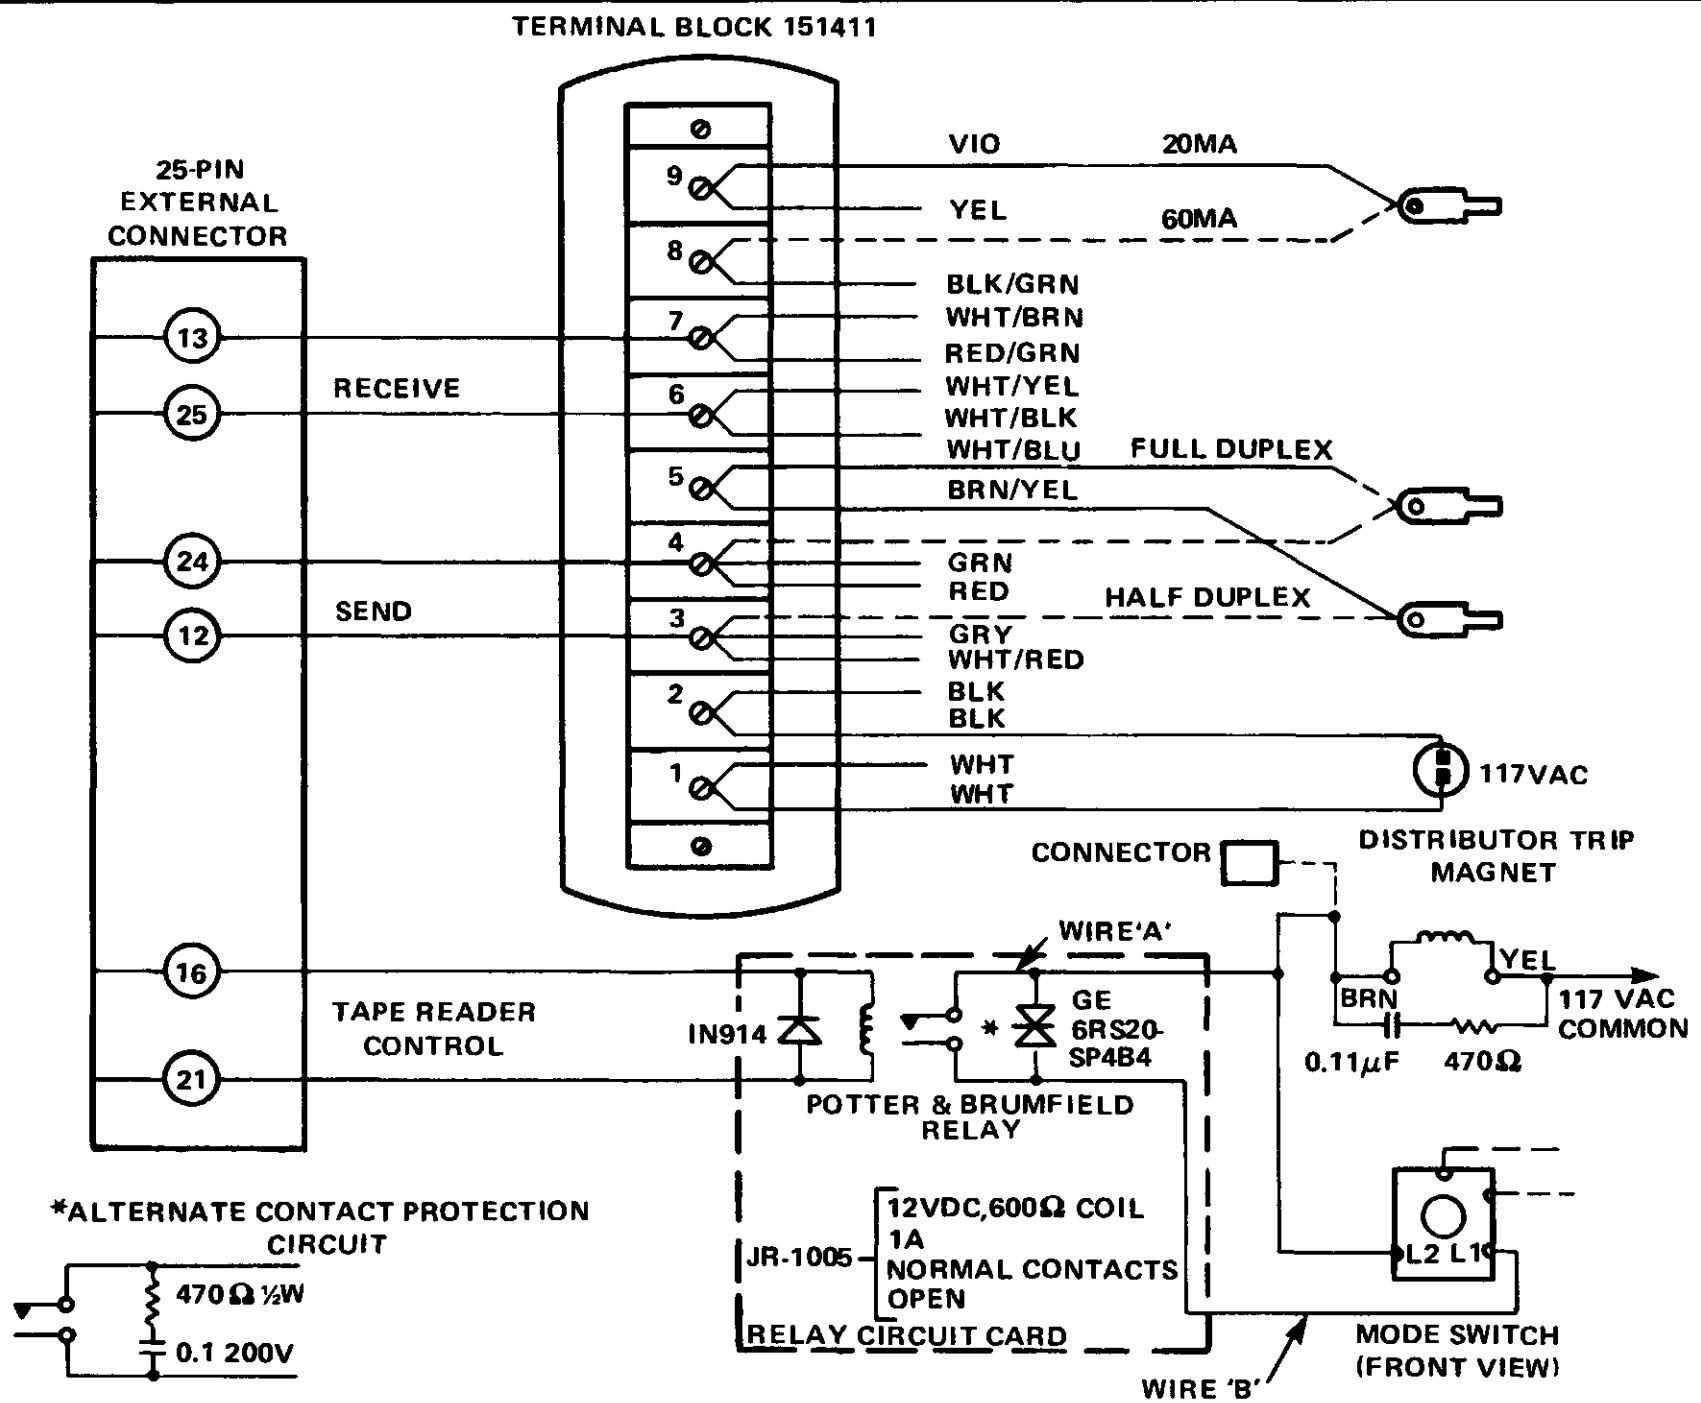
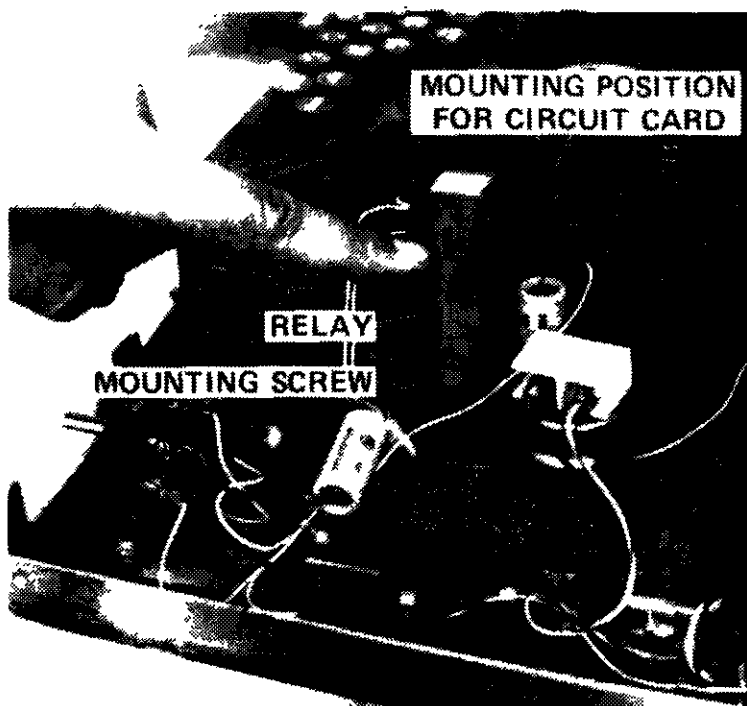
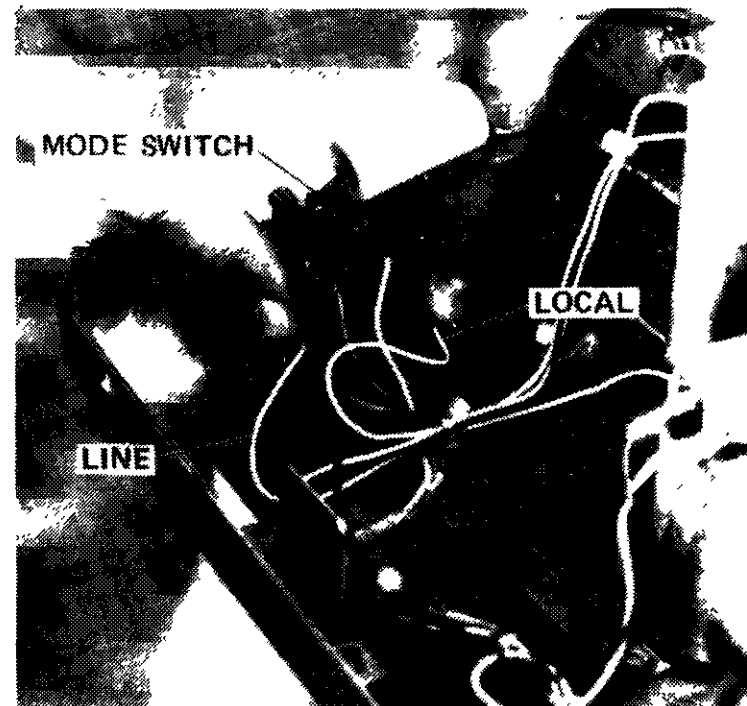

Figure C-4. Teletypewriter Modifications
Figure C-5. Relay Circuit
Figure C-6. Mode Switch
A circuit diagram of the relay circuit card is included in figure C-4; this diagram also includes the part numbers of the relay, diode, and thyrector. (Note that a 470-ohm resistor and a 0.1 μ F capacitor may be substituted for the thyrector.) After the relay circuit card has been assembled, mount it in position as shown in figure C-5. Secure the card to the base plate using two self-tapping screws. Connect the relay circuit to the distributor trip magnet and mode switch as follows:
1. Refer to figure C-4 and connect a wire (Wire A) from relay circuit card to terminal L2 on mode switch (see figure C-6).
3. Refer to figure C-4 and connect a wire (Wire B) from relay circuit board to terminal L1 on mode switch.
Connect a two-wire receive loop, a two-wire send loop, and a two-wire tape reader control loop to the external device as shown in figure C-4. The external connector pin numbers shown in figure C-4 are for serial channel 1 on the Intellec Series II system.